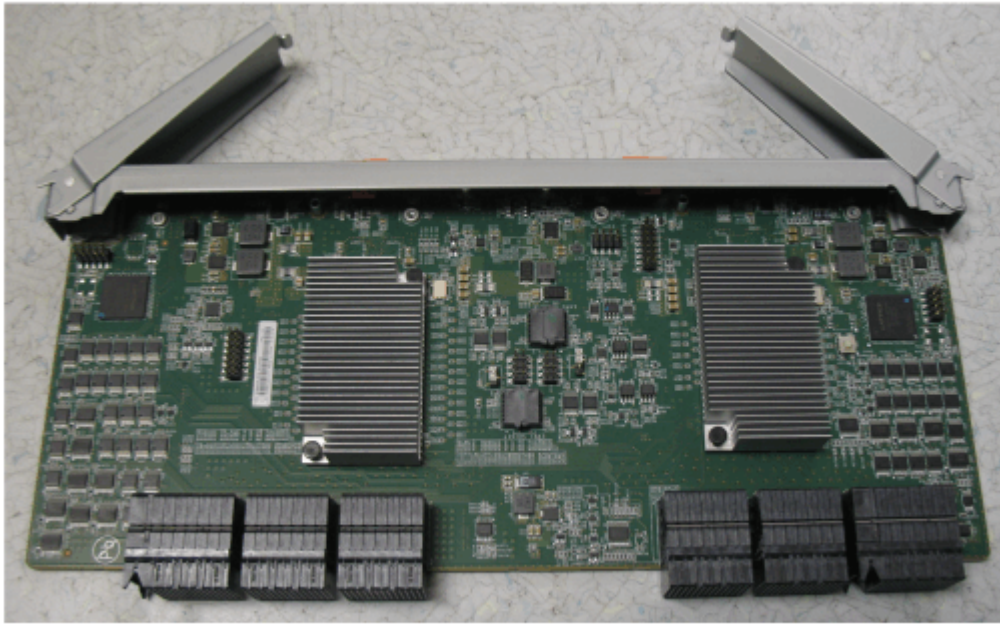

Figure 117. Secondary expander module removed from the enclosure
5. Place the secondary expander module in a safe location, as shown in Figure 117 on page 100.